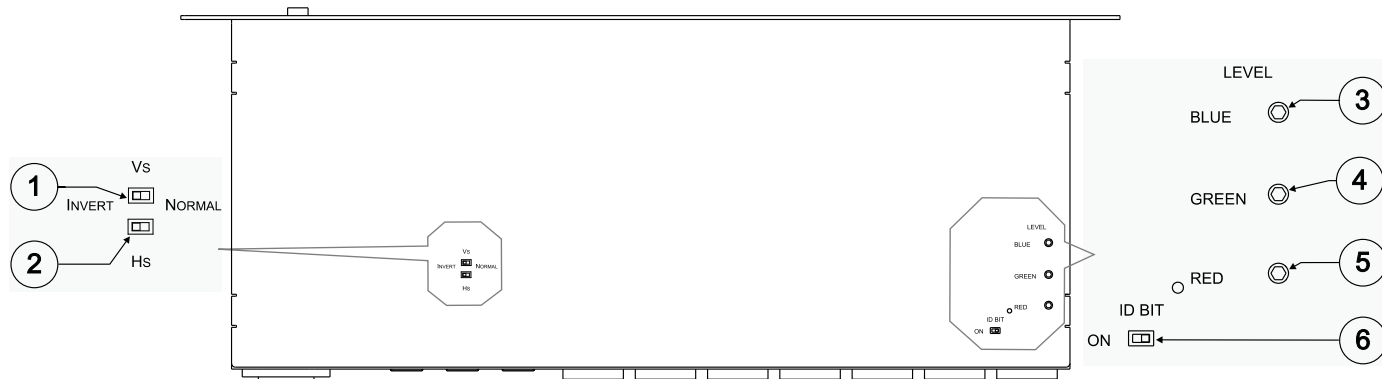

Figure 2: Underside of the VP-12NHD 1:12 + 3 UXGA / CAT5 Distributor
- Underside panel (see Figure 2 and Table 2)